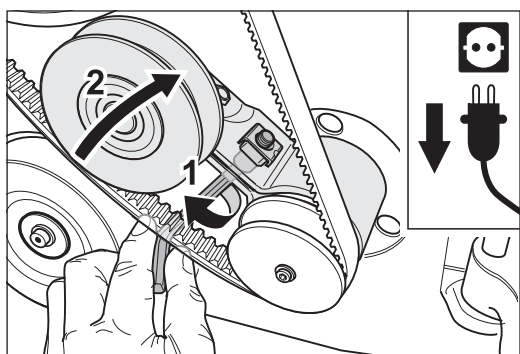

Fig. 60 Open the clamping screw (1) and release the tension of the V-belt (2).
- 6 Open the clamping screw of the belt tensioner for the fan V-belt (Fig. 60, 1).
- 7 Turn the belt tensioner clockwise to release the tension of the fan V-belt (Fig. 60, 2).